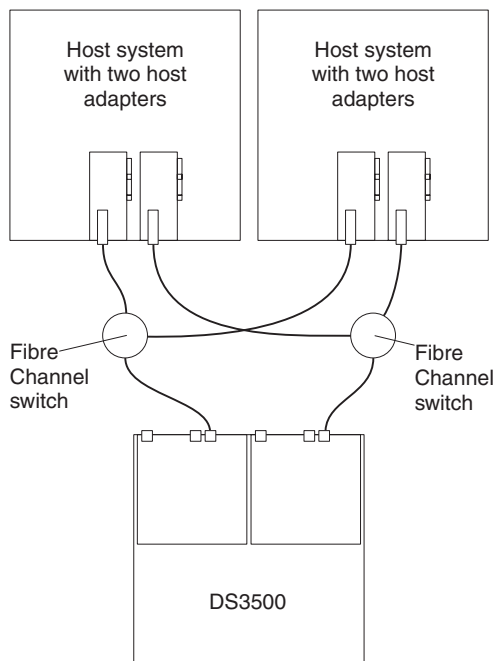

Figure 3-47. Example of a dual Fibre Channel SAN fabric configuration
- Dual SAN fabric configuration, as shown in Figure 3-47 on page 3-38
In Figure 3-47 on page 3-38, the Fibre Channel switches are *not* connected together through an ISL. Each switch forms its own SAN fabric. This configuration is also the configuration to use for a dual-node host configuration.